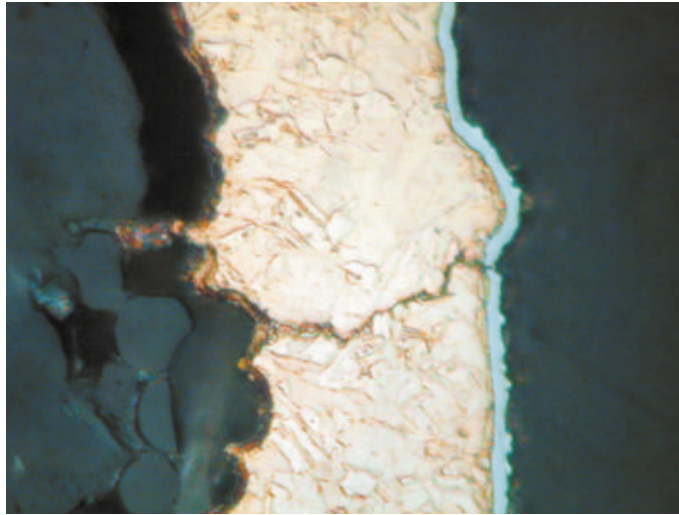
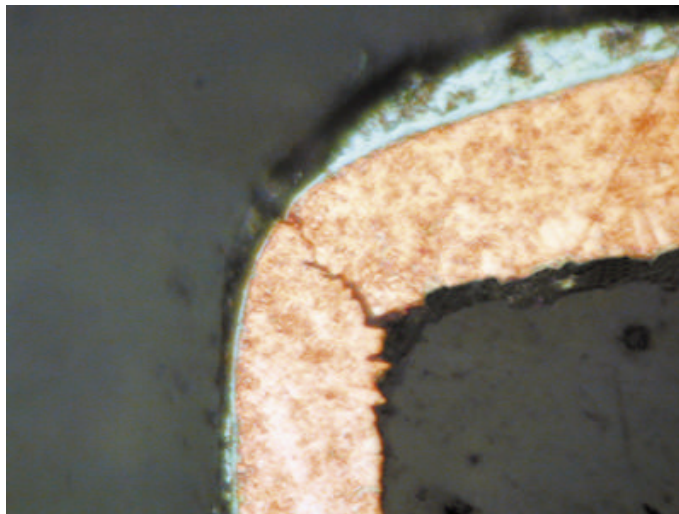

FIGURE 1. Barrel crack due to metal fatigue.
FIGURE 2. Corner crack due to metal fatigue.
12. Microsections are done for the first failed sample in each test group and one of the samples that reached the highest cycles-to-failure. If there is no failed circuit in a test, then the circuit that has been most degraded needs to be examined using microsectioning techniques. Failure analysis is performed on selected samples to determine the demonstrated and latent causes of failure and to check for the presence of "stress relieving" delamination. The failure modes for lead-free testing are barrel and corner cracks that exhibit metal fatigue. Metal fatigue cracks generally start in areas adjacent to glass bundles and usually propagate on an angle of about 30 degrees; the cracks meander around copper crystals, which commonly close at ambient conditions (**Figure 1**). The elevated temperatures associated with lead-free assembly have demonstrated a propensity for increasing the risk of corner or knee cracking (**Figure 2**). The extended exposure to temperatures above Tg will increase the rotational strain between the PTH barrel and surface features, creating a bending moment at the apex. Microsections should be examined for traditional IPC-6012